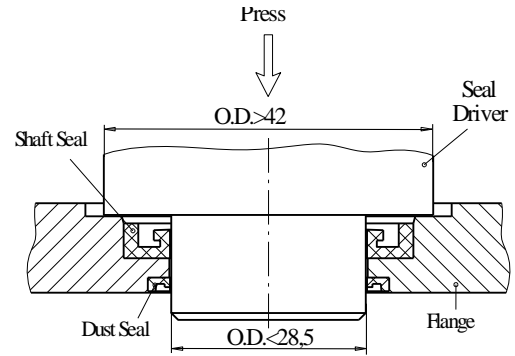

Fig.8
7. Place shaft seal in Flange and firmly push with Seal driver (see Fig.8).